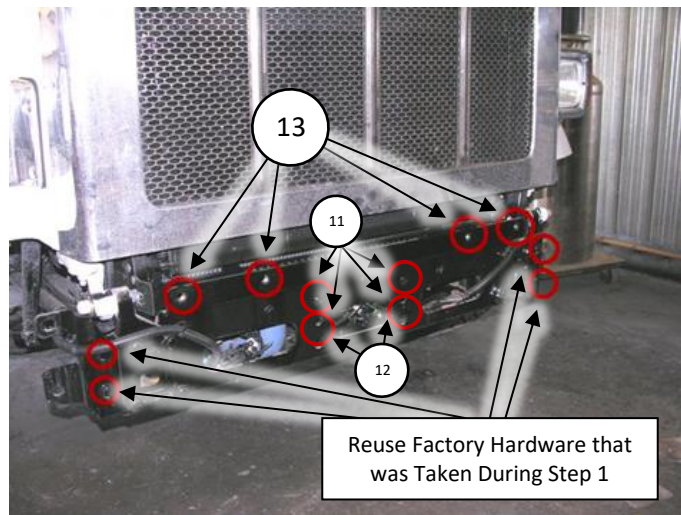

Figure 6 – Bracket Installation Front View (PB 365 & PB 367)
3. If installing the Truck Guard on a **Peterbilt 365** or **Peterbilt 367** model truck, use the 12 mounting points as seen in Figure 6. Use the supplied M12 Bolts (Item 13) to fasten the top four mounting points. Use the supplied M16 hardware (Items 11, 12) to fasten the center four mounting points. Use the OEM hardware retained in Step 1 on the outermost mounting points.